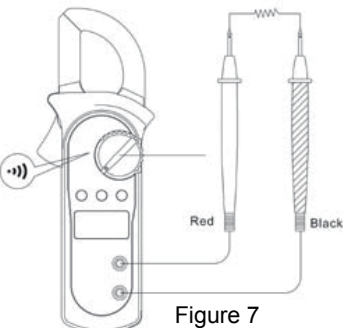

Figure 7
E. Testing for Continuity (See Figure 7)